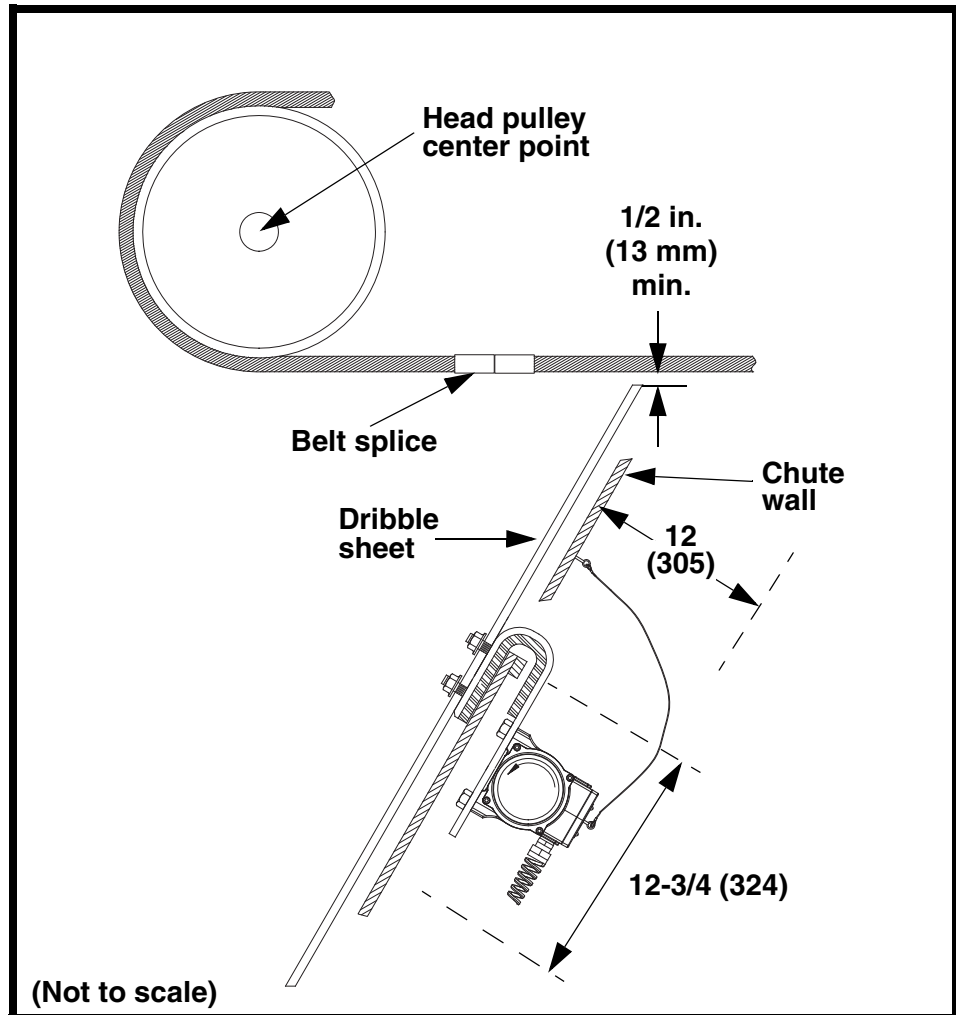

Figure 1. Minimum Clearance for Vibrating Dribble Chute Installation
- 7. See Figure 1. Determine clearance for dribble sheet by checking movement of conveyor belt and splices while belt is loaded and unloaded. (Clearance of 1/2 in. [13 mm] is recommended.)
- 8. Make sure location for slot allows clearance shown in Figure 1. (Clearance area is required to assemble unit and tighten vibrator mounting hardware.)